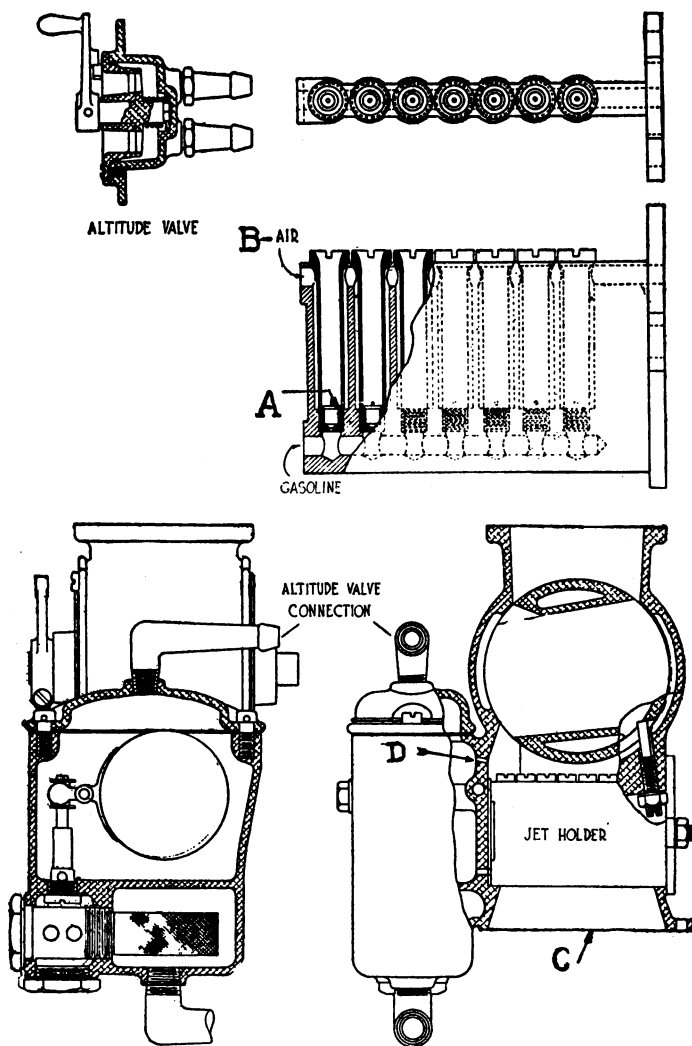

Fig. 99. Miller Multi-Jet Carburetor and Altitude Valve Details
**Miller Racing Carburetor.** A carburetting device very similar to the Master is that shown in Fig. 99, this being the Miller carburetor. Proof of its efficiency is shown by its very wide use on the highest powered engines, such as the King-Bugatti 16-cylinder aeronautic engine, the Duesenberg line of racing and airplane engines, and on the majority of recent racing cars.